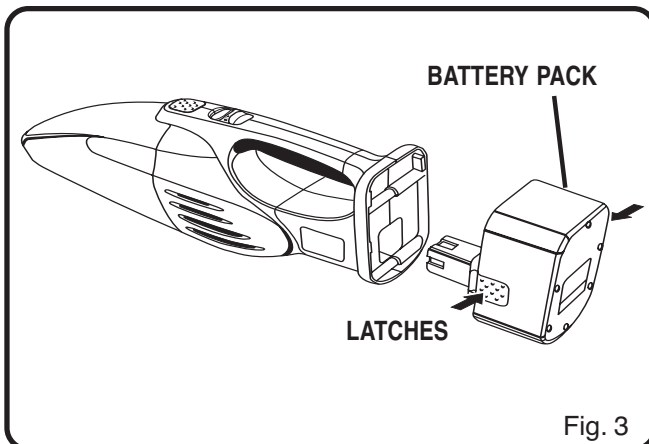

Fig. 3
- Place battery pack in charger. See Figure 3. Align raised rib on battery pack with groove in charger.
See Figure 3.